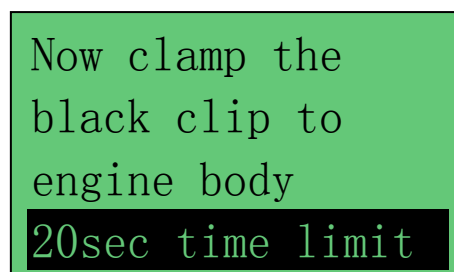

Figure 34
7. Once it has finished analysing, it will prompt you with an instruction (Fig. 34) stating that you should unclamp the black battery clip from the battery negative terminal and clamp it to the engine body within 20 seconds time limit.